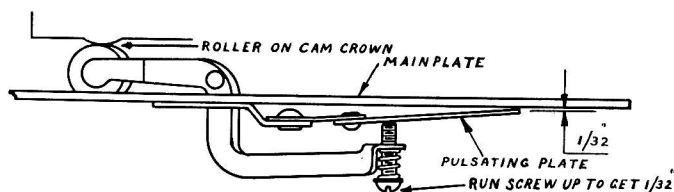

FIG. 6
When the turntable is revolving the pulsating plate of the reject mechanism should clear the main plate by $\frac{1}{32}$ of inch when the crown on the cam attached to the underside of the turntable touches the pulsating lever roller at its highest point. See Figure 6. To make this adjustment proceed as follows:
1. Rotate turntable until the crown of the cam under turntable touches roller of pulsating lever as shown in Figure 6.